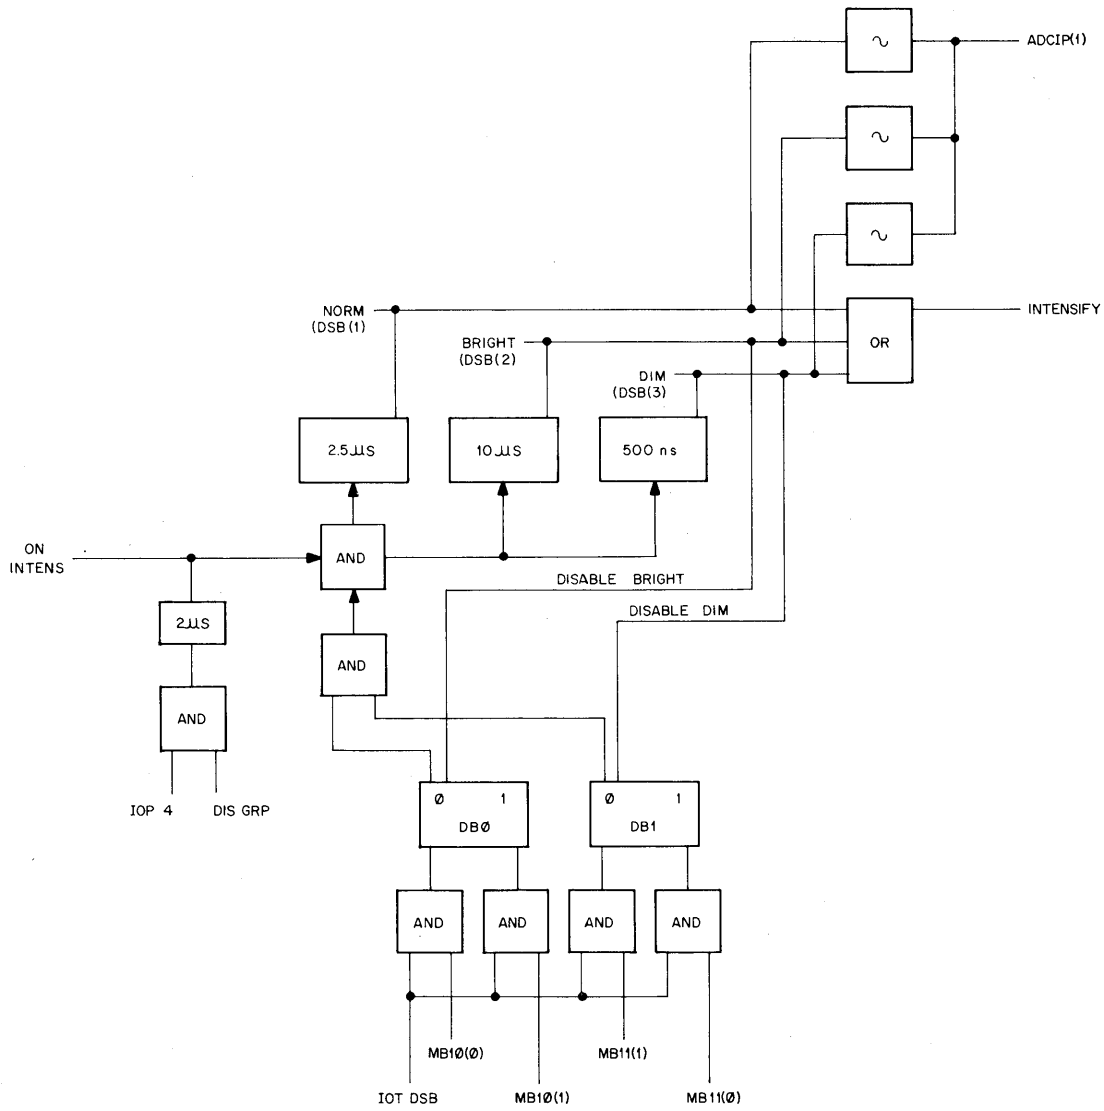

Figure 3-13 Intensity Logic
setting of DB disables BRIGHT and DIM intensity (see Figure 3-13). Disabling may be removed by setting either DB0(1) or DB1(1). This is done by strobing BMB10 and complement of BMB11 into DB upon IOT DSB. Thus,